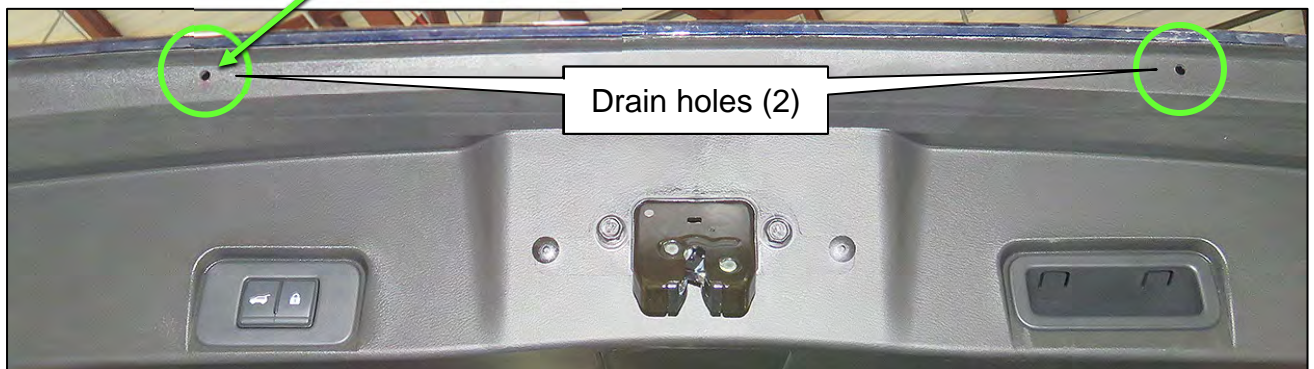

Figure 39
- Refer to Figure 39 on page 19 for orientation of finished drain holes.
49. Using a 6 mm (approximately $\frac{1}{4}$ inch) drill bit, drill one (1) hole at each mark made in steps 47 and step 48. A total of two (2) holes shown in Figure 39.